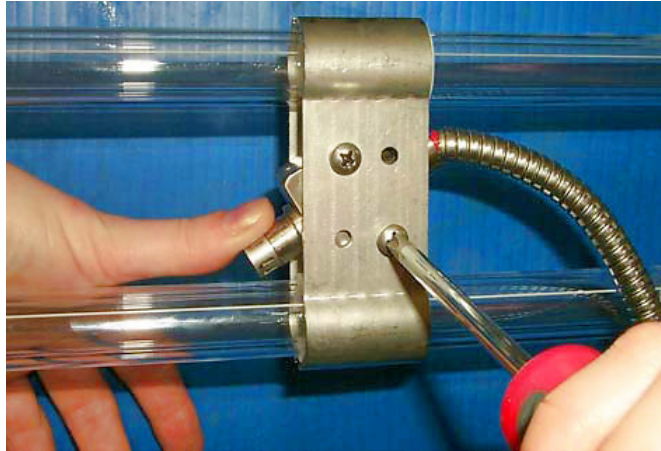

Figure 15 Mount the Sensor
5. While sensor bracket is loosely connected to U-bracket, place pressure on the UV sensor head to position UV sensor as close to the UV lamp as the bracket will allow. Tighten all 4 screws. Refer to Figure 15.